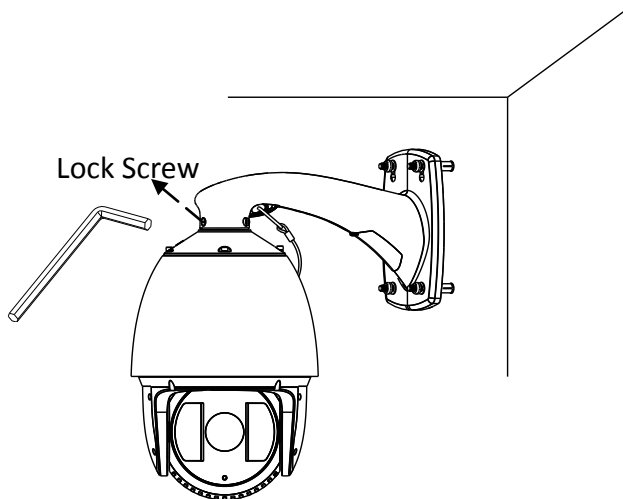

Figure 1-7 Secure the Speed Dome
- 6) Secure the two lock screws with the Allen wrench as shown in Figure 1-7.